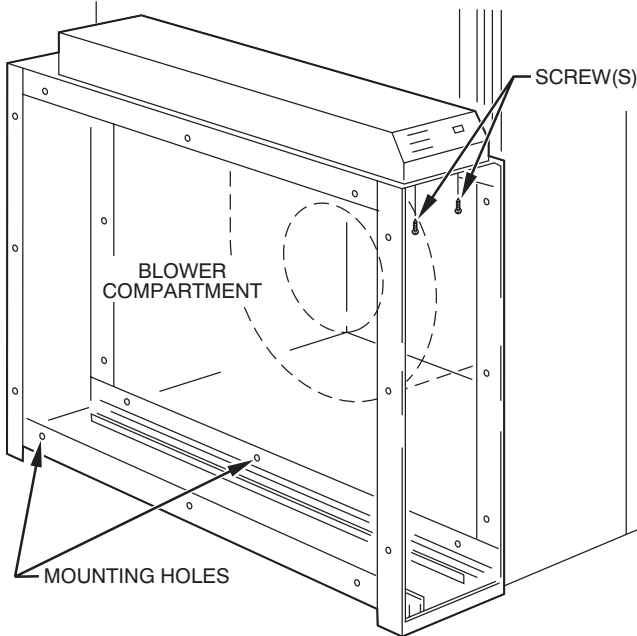

Fig. 9 - Mounting Hole Location
2. Mounting holes are provided for ductwork attachment. The .140” holes (see Fig. 9) are sized for #8 sheet metal screws,